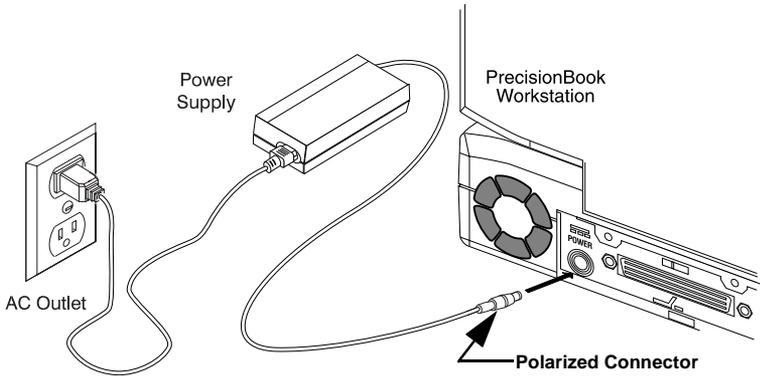

Figure 3-2 Connecting to AC Power
3. Plug the polarized connector from the AC adapter into the power input socket on the PrecisionBook (see Figure 3-2). Then plug the AC cable plug into a nearby AC outlet.